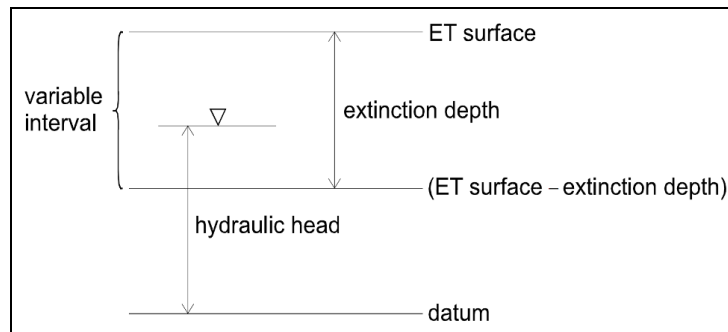

Figure 1 ET model, from Banta (2000)1
The EVT package has existed at least since MODFLOW 88. It requires three parameters to determine evapotranspiration: the evapotranspiration (ET) surface elevation, the maximum ET rate, and the extinction depth. When the head in a cell is at or above the ET surface, ET occurs at the maximum ET rate. When the head is below the extinction depth, ET is zero. In between these two points, the ET varies linearly (Figure 1).